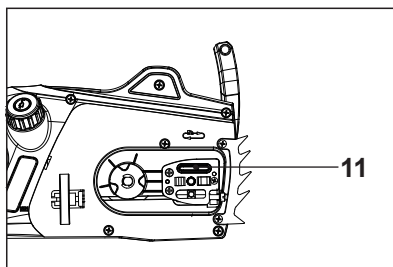

Fig. 14a
- 1). Disassemble the guide bar (4) and saw chain (3) in reversed order from assembly.
- 2). Check the oiling port (11) for clogging and clean if necessary to ensure proper lubrication of the guide bar and saw chain during operation. Use a soft wire small enough to insert into the oil discharge hole (Fig. 14a).